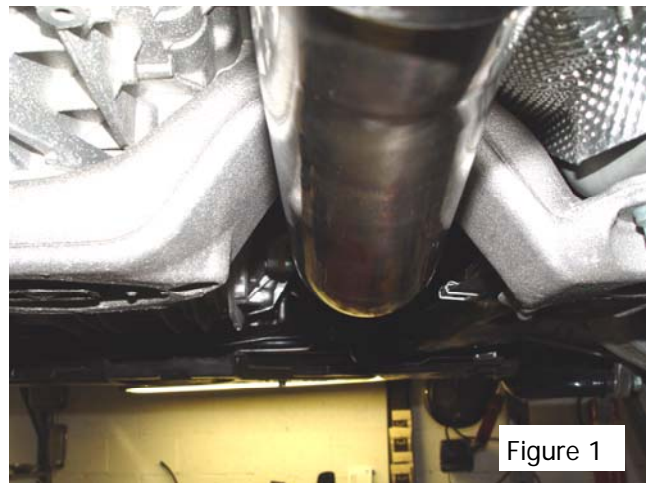

Figure 1
3. Begin installing AWE Tuning Exhaust with the downpipe (for manual trans cars only). Ensure that the downpipe is centered in the crossmember cavity as shown in **Figure 1**. Double check this orientation after all downpipe fasteners and brackets are fully tightened.